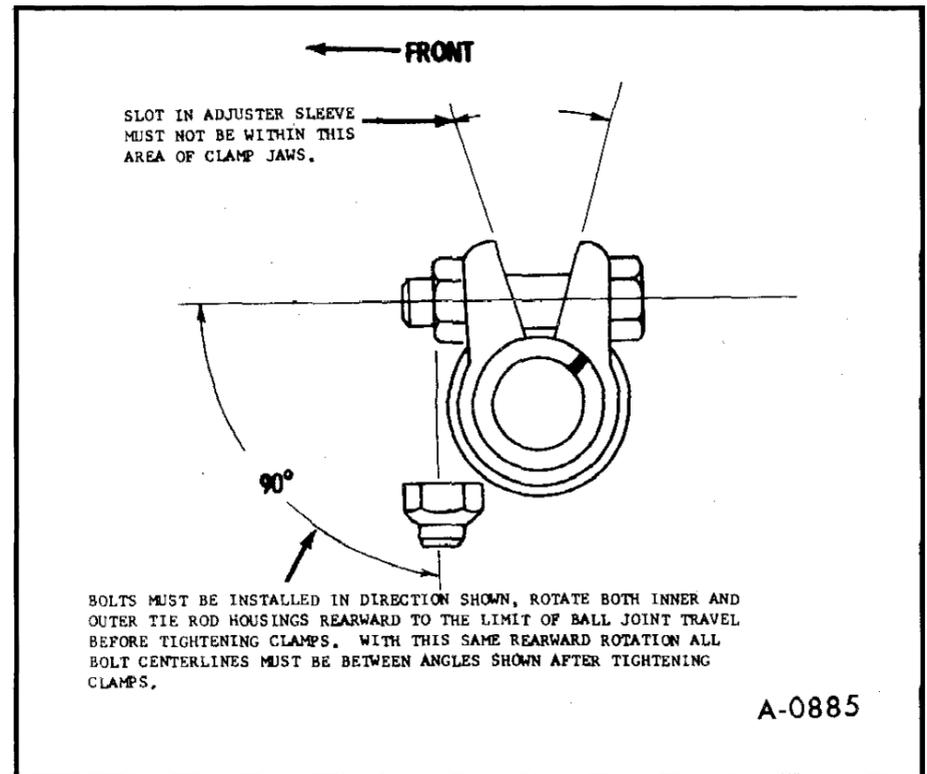

Figure 23—Positioning Tie Rod Clamp
**NOTE:** Tie rod adjuster components often become rusted in service. In such cases, it is recommended that if the torque required to remove the nut from the bolt (after breakaway) exceeds 7 ft. lbs., discard the nuts and bolts. Apply penetrating oil between the clamp and tube and rotate the clamps until they move freely. Install new bolts and nuts to assure proper clamping at the specified nut torque. (Refer to figure 23.)
outer tie rod clamps as shown in figure 23. Torque nuts to specifications listed at the end of this section.